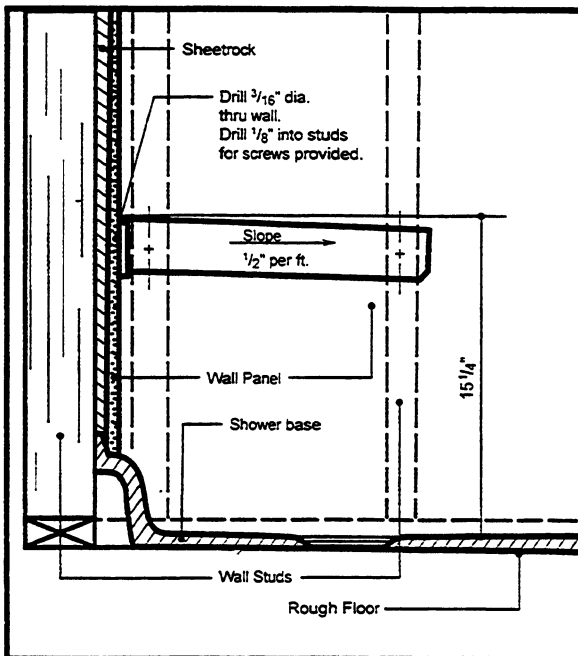

Fig. 2
Step 1. With a soft pencil mark the corner of the shower walls 15-1/4" above the shower base. Draw a set of lines pitched downward 1/8" per foot from the mark (See Fig. 2).
- Step 3. Drill a 3/16" diameter hole through the wall panel and the drywall. Drill a 1/8" diameter hole into the studs (See Fig. 2).